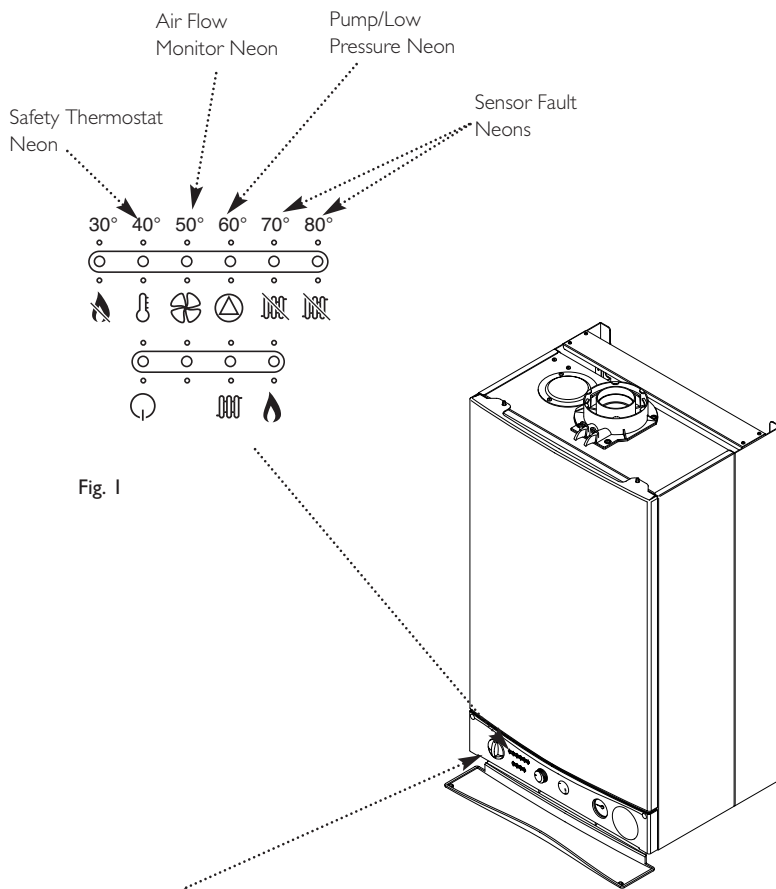

Fig. 1
2. If the (⊗) neon illuminates it indicates that the flue or flue terminal is blocked or obstructed in some way, or that there is an internal fault. If there is no external blockage of the flue terminal that can be easily removed contact your Installer or Service Engineer (Fig. 1).
1. The neon (⊕) will illuminate if the circulating pump is faulty or the system pressure drops below the minimum requirement (Fig. 1).
1. When either of the (⊗) neons is illuminated a fault on one of the temperature sensors is indicated (Fig. 1). Contact your Installer or Service Engineer.
1. Your Main System HE is fitted with an additional safety devices, which shut down the boiler in the event of the system, boiler or flue overheating. The safety thermostat neon (⊕) will light in this instance (Fig. 1).